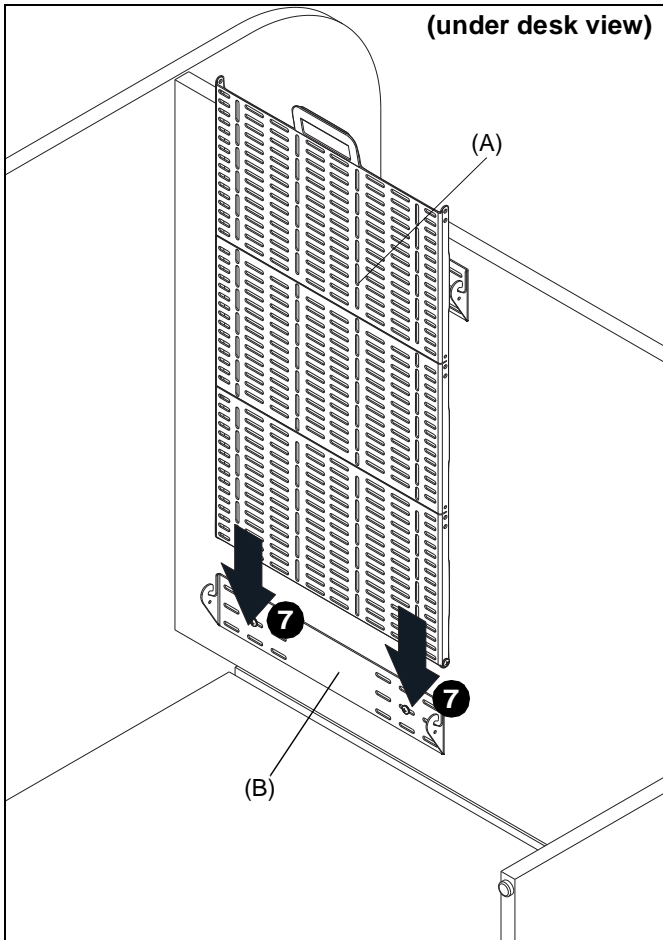

Figure 5
- Slide accessory desk plate (A) onto back desk bracket (B) until two screws (C) or (E) sit in slots of bracket (B). (See Figure 5)